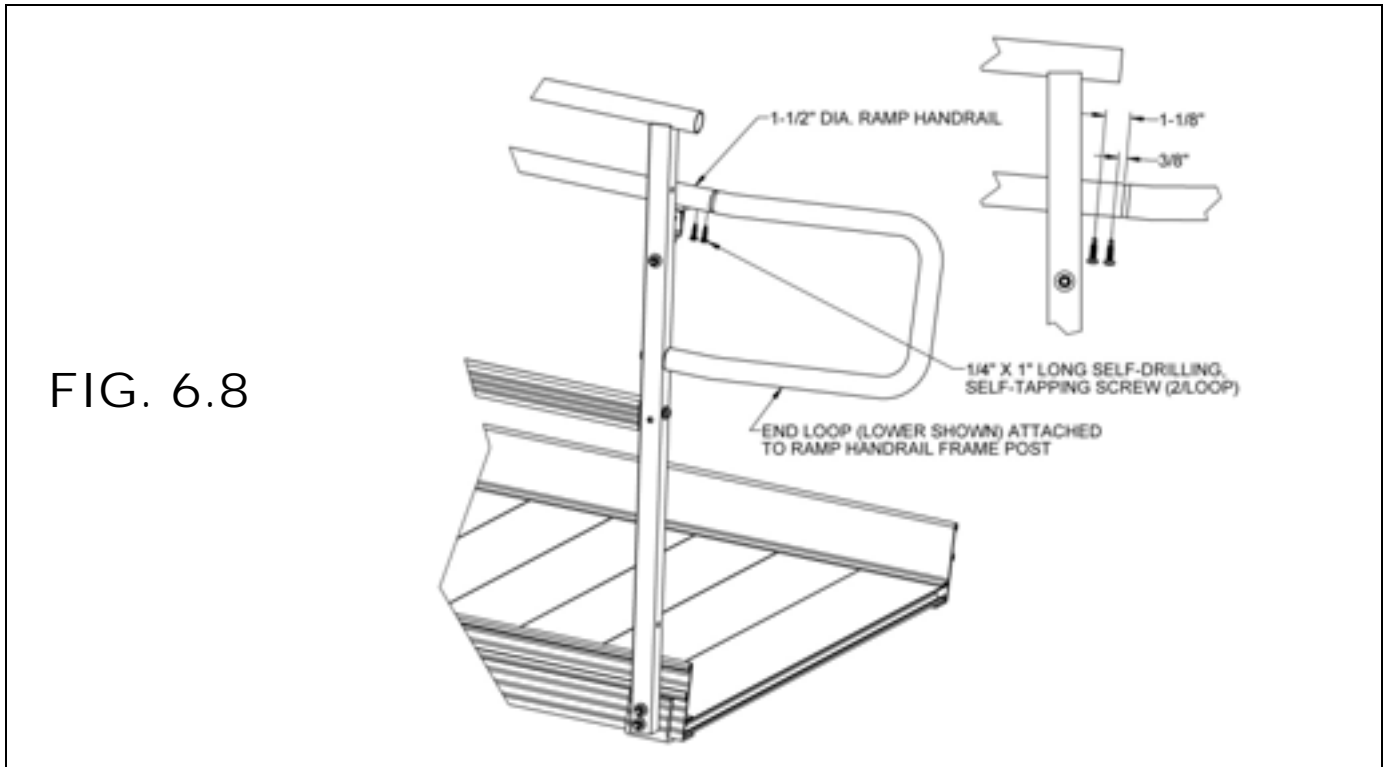

FIG. 6.8
- 6.3.2.5. Drill two 1/8" diameter pilot holes in the underside of ramp handrail through both the handrail and swaged end of the loop. Drill one hole at 3/8" and the other at 1-1/8" from the end of the ramp handrail and install two 1/4" x 1" self-drilling, self-tapping pan head Phillips screws (FIG. 6.8).